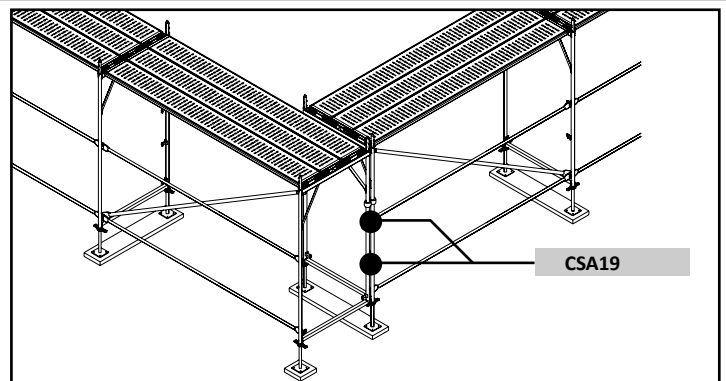

Figure 14 – Clamped Outside Corner Arrangement
- Position the top swivel clamp as close to the header as possible and the base clamp as close to the base as possible (Fig. 14).